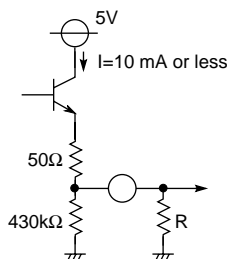

Fig. 2
5. The R, G and B output pins (pins ㉕, ㉖ and ㉗) are as shown in Figure 2. Pull-down resistance can be added to between GNDs according to the driving capability. However, set the R value to limit current I to 10 mA or less. In Figure 2, R is 500Ω or more.